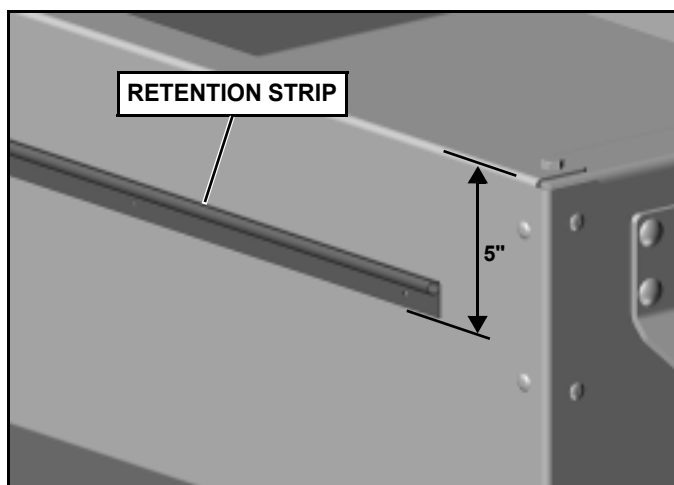

Figure 2
2. Install (4) self-tapping screws through the holes in the retention strip into the hopper lip.
- Center and position the aluminum tarp retention strip five inches below the top of the spreader frame. (See Figure 2.)